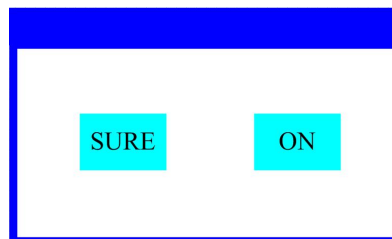

Figure 5 Dialog of confirm
- When the parameter is a key item, chick corresponding item, a dialog shown in Figure 5 will be popup ask for the confirm. Chick 'sure' to confirm.